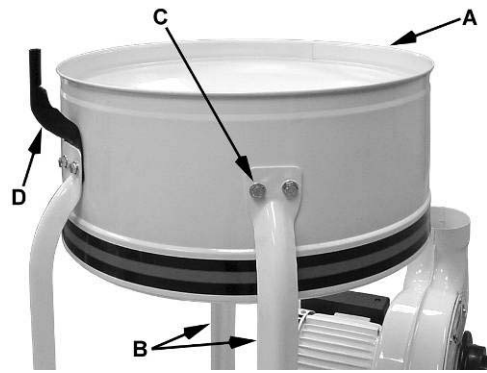
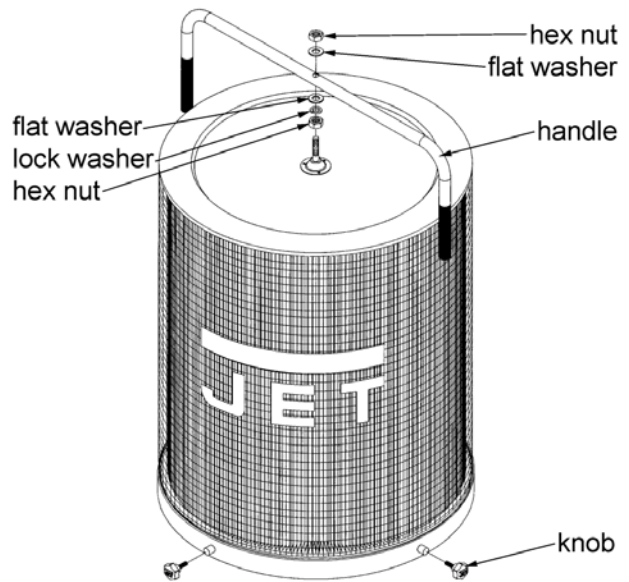

Figure 5
Figure 9
6. Install the *housing* (A, Fig. 5) to two *support legs* (B, Fig. 5) using four M8 x 16 hex cap bolts, eight M8 flat washers, and four M8 hex nuts (C, Fig. 5). Be sure hose opening faces fan housing.
Note: For filter bag models only – Before attaching third support bracket place the *hanger bracket* (D, Fig.5) between the support bracket and the housing. This action is not necessary for canister filter units.
1. Mount the handle onto the canister filter with two M10 hex nuts, two M10 flat washers, and a M10 lock washer (Figure 9).
2. Mount the canister filter on top of the *collector housing* (A, Fig. 5) and tighten the knobs on the *canister filter* (Figure 9).